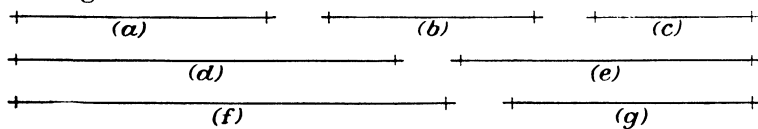

Fig. 4.
5. Measure the length of each of the lines in Fig. 4, using a rule graduated in 32nds.